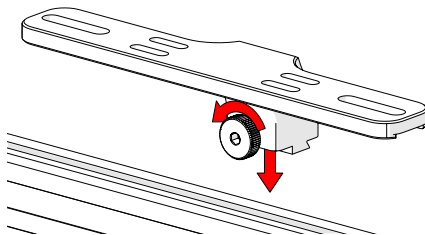

Fig. 185 - Loosen knob and mount to dovetail groove
1. Loosen the knob and align with dovetail groove (Fig. 185).